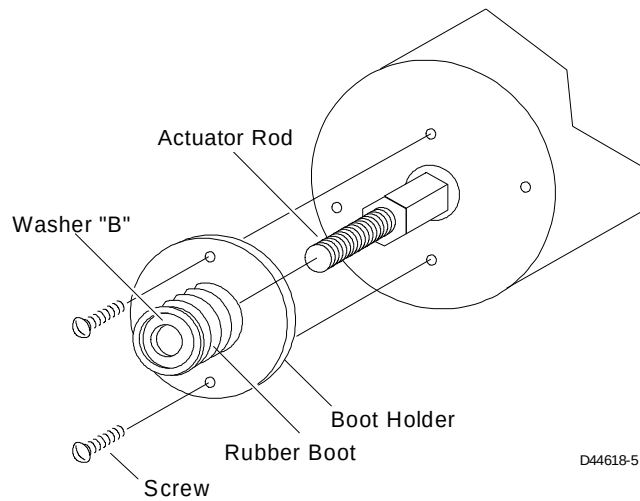

Figure 5: Installing Boot Kit
5. Slip the entire assembly over the actuator rod and use the two #8-32 x 3/8 inch self-threading screws to secure the boot holder to the actuator face as shown in Figure 5.